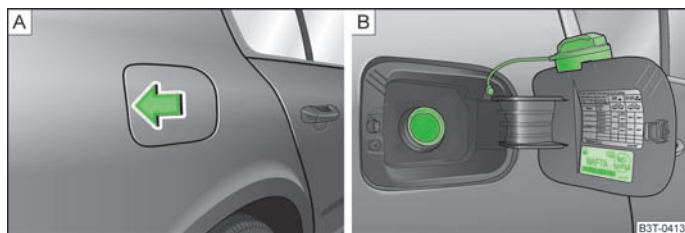

Fig. 158 Right rear side of the vehicle: Open fuel filler flap/fuel filler flap with cap unscrewed
The correct type of fuel for your vehicle and the tyre size and inflation pressure are specified on the inside of the fuel filler flap » Fig. 158 - B.
- Press in the middle of the left area of the fuel filler flap » Fig. 158 - A.
- Unscrew the filler cap by turning it to the left and place the cap onto the top of the fuel filler flap » Fig. 158 - B.